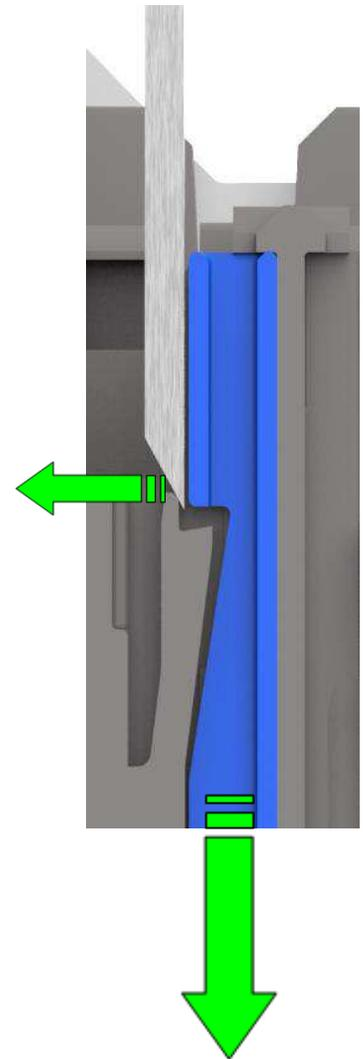

Figure 37
3. Using the Generation Y service tool or small screwdriver, gently deflect the plastic terminal latch within the connector housing. See Figure 37.
3. Using the Molex 150 service tool or small screwdriver, gently deflect the plastic terminal latch within the connector housing. Refer to Figure 37 Generation Y seal plugs extraction.
4. Grasp the finger grip of the seal plug and pull the seal plug from the plug housing while the plastic terminal latch is being deflected by the extraction service tool. Refer to Figure 37 Generation Y seal plugs extraction.